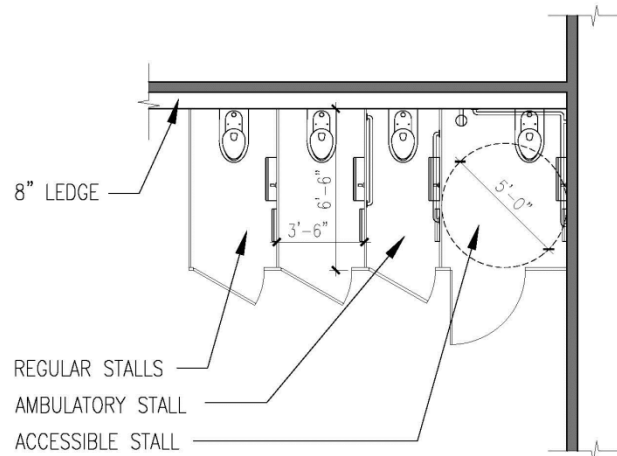

Figure 1.8B
- B. Typical toilet stalls in new construction and in new restroom layouts in existing structures where space permits will be 3'-6" x 6'-6" as shown in *Figure 1.8B*.